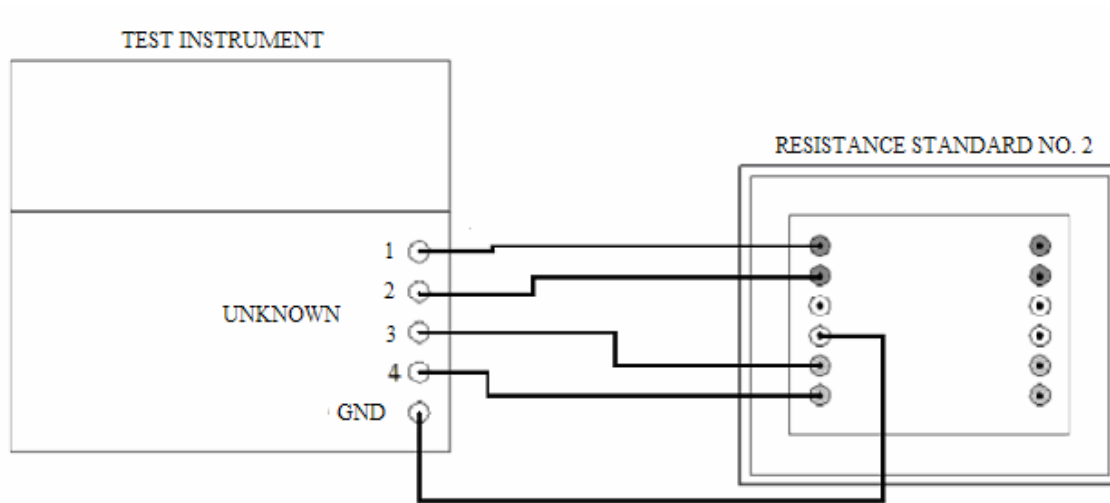

Figure 8. Multiplier - equipment setup.
(1) Position controls as listed in (a) through (d) below:
- (d) Resistance decade dials to 000099.9 (TEN) (00).
- (2) Connect equipment as shown in figure 8.